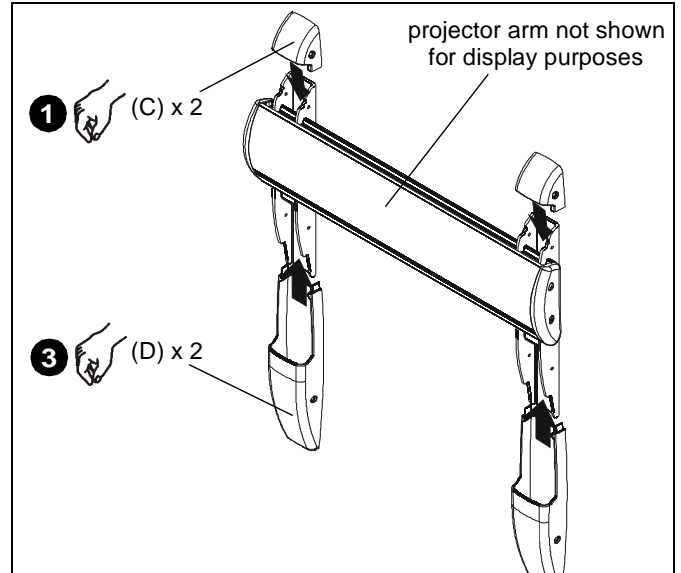

Figure 29
1. Place wall bracket top covers (C) over top of each wall bracket arm. (See Figure 29)
3. Place wall bracket bottom covers (D) over bottom of each wall bracket arm. (See Figure 29)